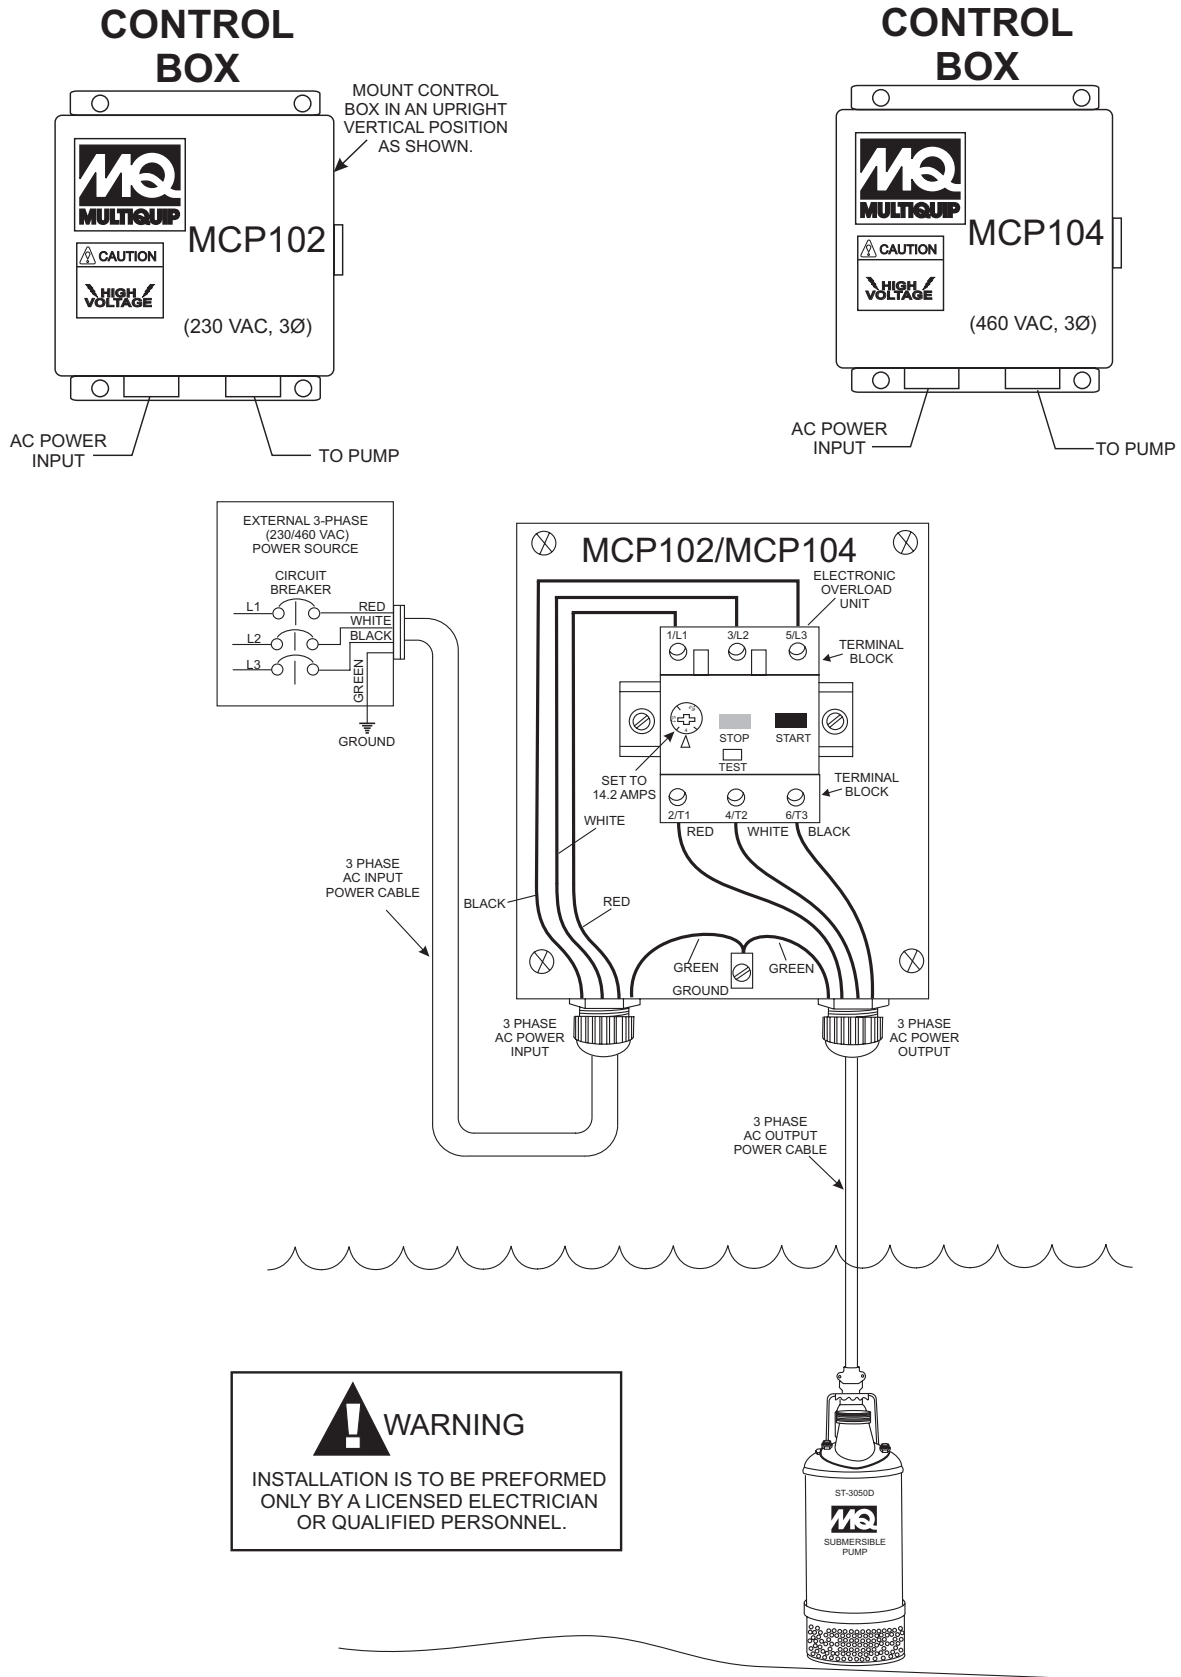

Figure 15. MCP102/104 Control Box Configurations
2. Remove the 3-phase AC input connector housing from the control box, then route the three phase input power cable through the cable gland on the control box. Attach the wires to the terminal block on the electronic overload unit inside the control box as indicated by Table 5 and Figure 15.
2. Remove the 3-phase AC output power connector housing on the control box, then route the three phase output power cable through the cable gland on the control box. Attach the wires to the AC terminal blocks on the **electronic overload** unit as indicated by Table 6 and Figure 15.